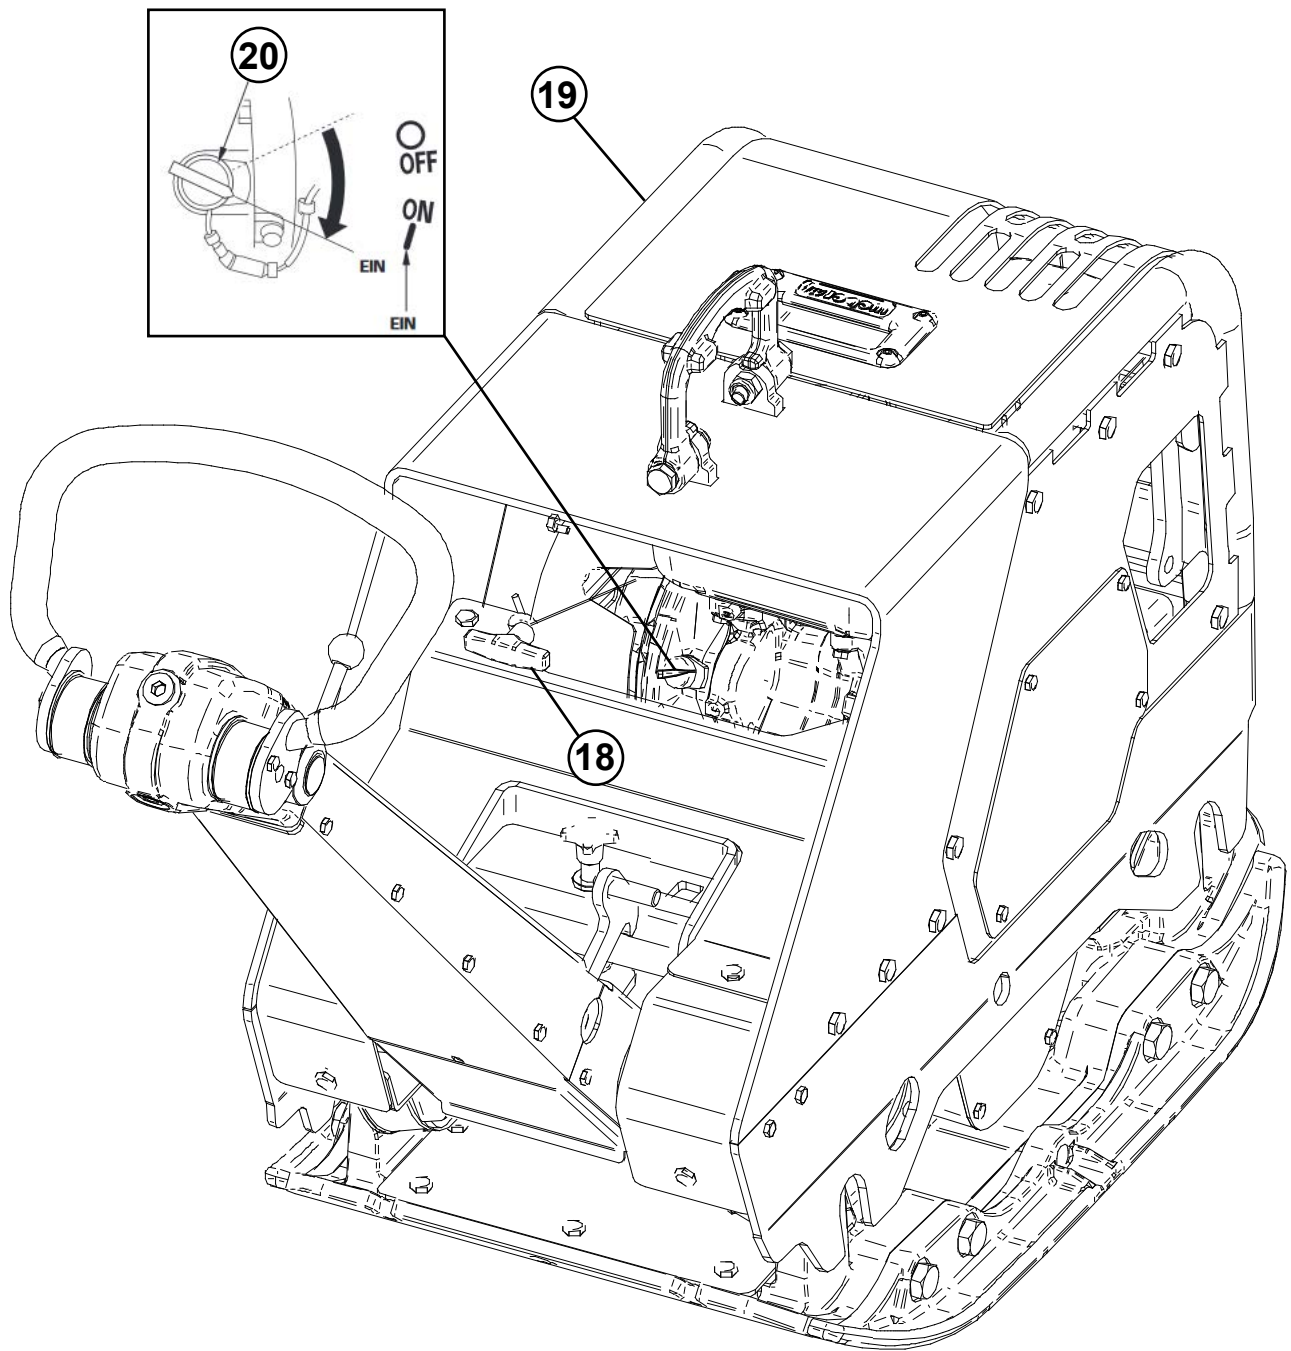

Figure 3
- ▶ Set the short-circuit switch (position 20, figure 3) to "I".